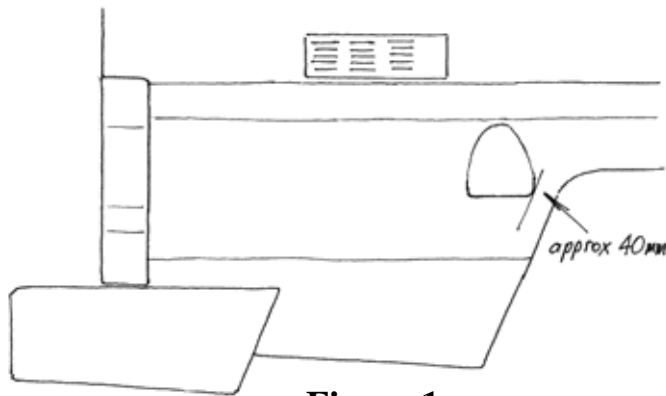

Figure 1
3. If parts are missing or damaged, if foreign matter is found in the tank, or if any problems arise during installation, contact the factory office without delay for advice phone (02) 4953 3288, fax (02) 4953 1916 or visit www.thelongranger.com.au
10. Refer to figures 1 and 2 for the following steps. On the RH side of the vehicle, hold the filler panel plumb with its uppermost point slightly below the bodywork crease, and its front edge approximately 40.0mm from the wheel arch. Trace the filler housing outline. **NOTE: this is NOT a cutting line.**